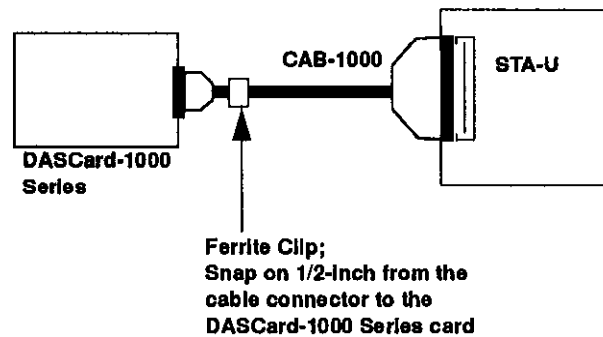

Figure 2. Snapping on the Ferrite Clip
1. Position the supplied ferrite clip about 1/2-inch from the end of the cable connector attached to the DASCARD-1000 Series card, as shown in Figure 2.